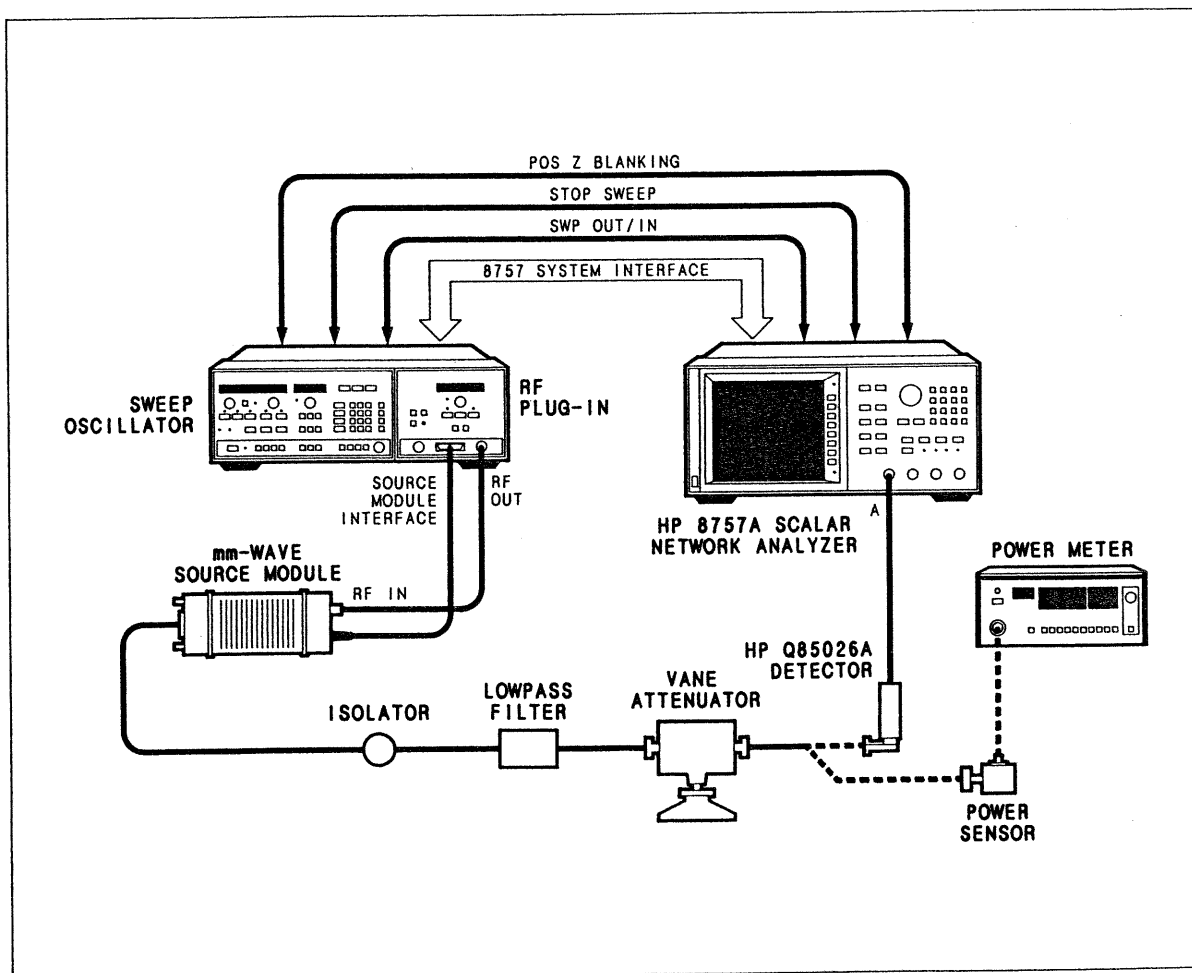

Figure 3-3. Dynamic Accuracy Test Setup
1. Connect the equipment as shown in Figure 3-3 with the power meter connected to the HP Q382A attenuator. Allow the equipment to warm up for 30 minutes.